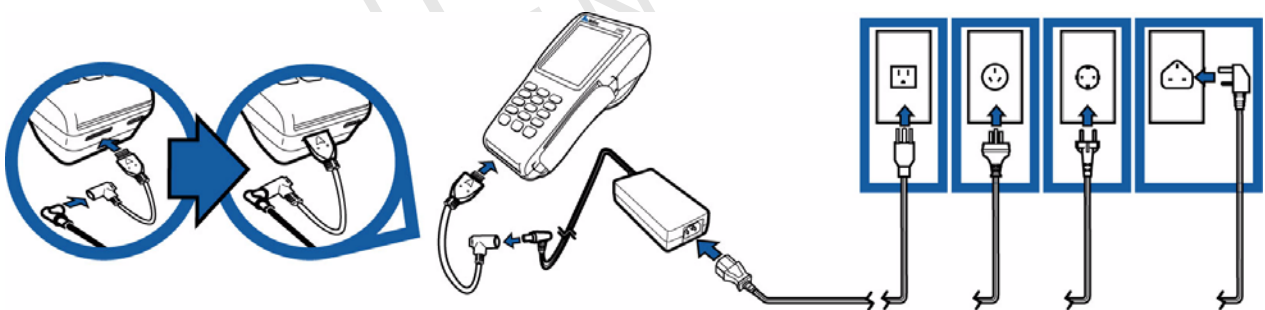

Figure 23 V^x680 Power Pack Connection
- 1 Insert the round barrel connector into the power port in the connector, as shown in Figure 23.